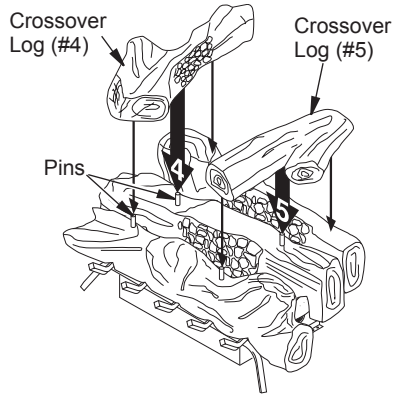

Figure 28 - Installing Crossover Logs (#4 & #5) (Base may vary from illustration)
4. Place left crossover log (#4) across logs #1, #2 and #3 fitting holes on bottom of log #4 onto pin on front and middle logs as shown in Figure 28.
5. Place right crossover log (#5) in the same manner on right side of logs (see Figure 28).